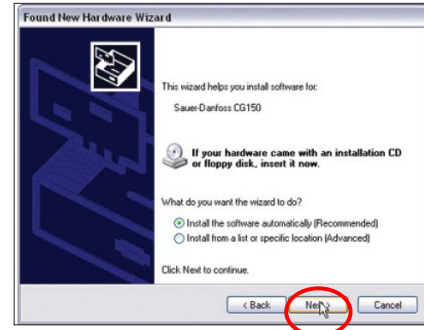

Figure 21. CAN Driver Installation
4. When the CAN Gateway cable is connected to the laptop for the first time, it is necessary to install the CAN driver software. The installation screen will appear (Figure 21). Click "Next" to install the software automatically (default).